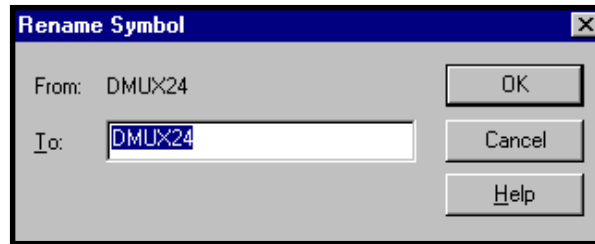

Figure 6-9. The Rename Symbol Dialog Box
3. Select **Edit** ⇒ **Rename Symbol**. The Rename Symbol dialog box appears (Figure 6-9).